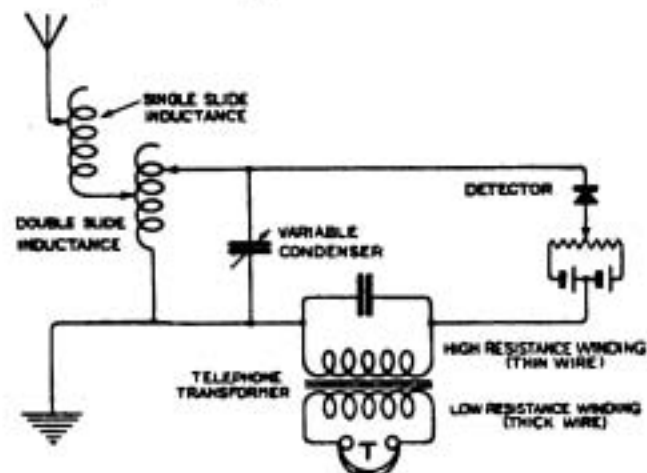

Fig. 6.
Z.B.Z. (S.S. Porfell).—(1) The connections to the 31 type are correct. You do not show the circuit of the valve panel. Is there a grid condenser and leak? if not your anode voltage of 50 is too much—the valve will be an inefficient rectifier.
(2) The information given is insufficient to enable any explanation to be given.
(3) To use a valve as a L.F. magnifier, use a crystal rectifier in the 31 and connect the telephone terminals to the grid and negative of the filament of the valve. Short circuit the grid condenser and leak, if present. Short circuit the reaction coil terminals and use the existing valve panel telephone terminals.
AMATEUR (Lowestoft).—(1) Try the arrangement given in Fig. 6 for connecting up your various pieces of apparatus:—